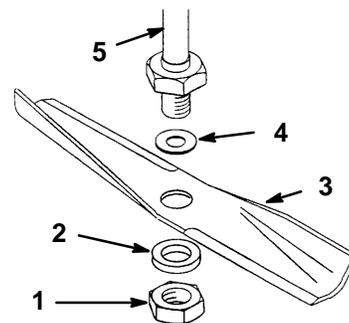

Figure 20
3. Remove the nut, flat washer, blade and washer (Fig. 20). A block of wood may be wedged between the blade and the mower to lock the blade when you are removing the bolt.